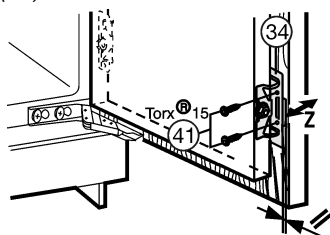

Fig. 21
- ▶ Screw the appliance door to the unit door with screws *Fig. 21 (41)* passed through the mounting brackets *Fig. 21 (34)*.